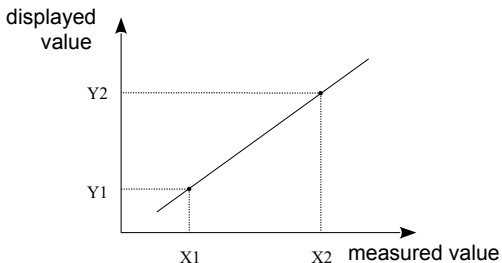

Fig. 7. Individual characteristic
- The configuration of the individual characteristic consists in defining the points of the linear characteristic used to convert the measured value into the displayed value (Figure 7).